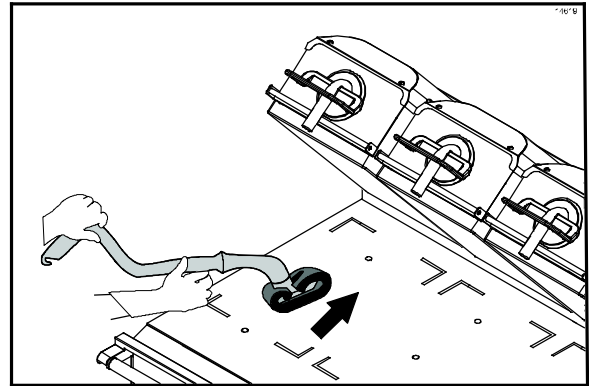

Figure 46
- Spread a light coating of the grill cleaner over the entire lower grill surface, using front to back strokes. Allow the product to remain on the grill while spreading across all surfaces. (See Figure 46.)